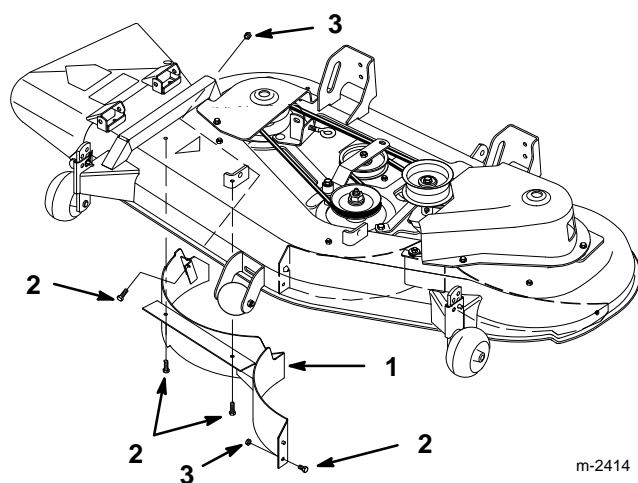

Figure 16
1. Remove lock nuts from top, discharge side and center flange of right side baffle (Fig. 16). Lower baffle and slide out discharge opening to remove.
2. Install previously removed 5/16–5/8" (16 mm) bolts and 5/16" lock nuts in open holes of mower for safety (Fig. 16).